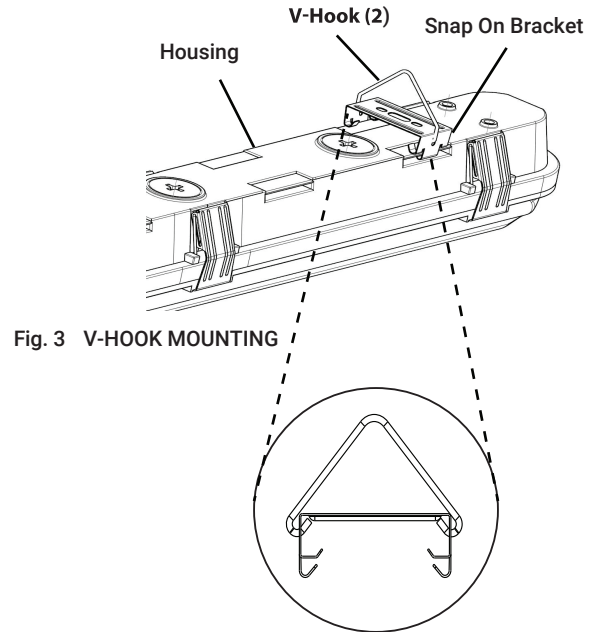

Fig. 3 V-HOOK MOUNTING
3. V-Hooks (2 pcs on 4FT and 4 pcs on 8FT) are provided for chain mounting. Loop V-Hooks through Snap On Bracket at back of Housing as in Fig. 3
5. Fixture mounting height and spacing should be determined by application requirements. Use chain suitable to support (4) times the weight of the fixture.